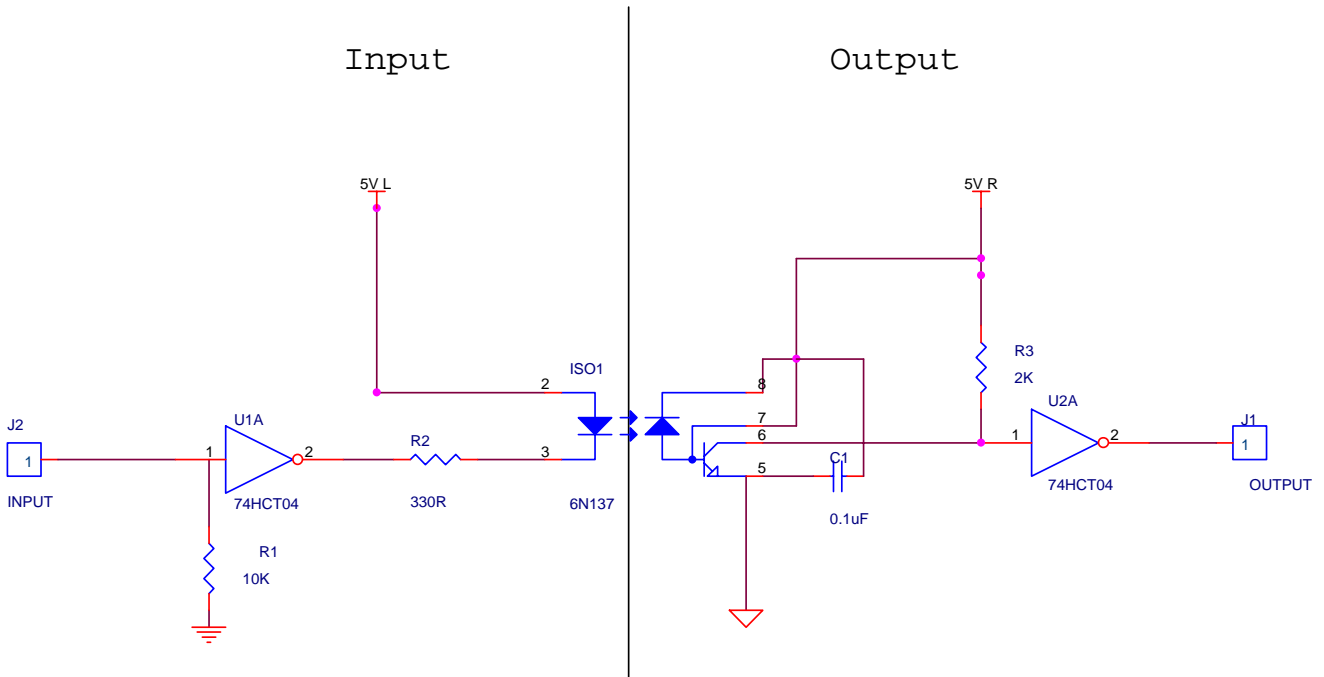
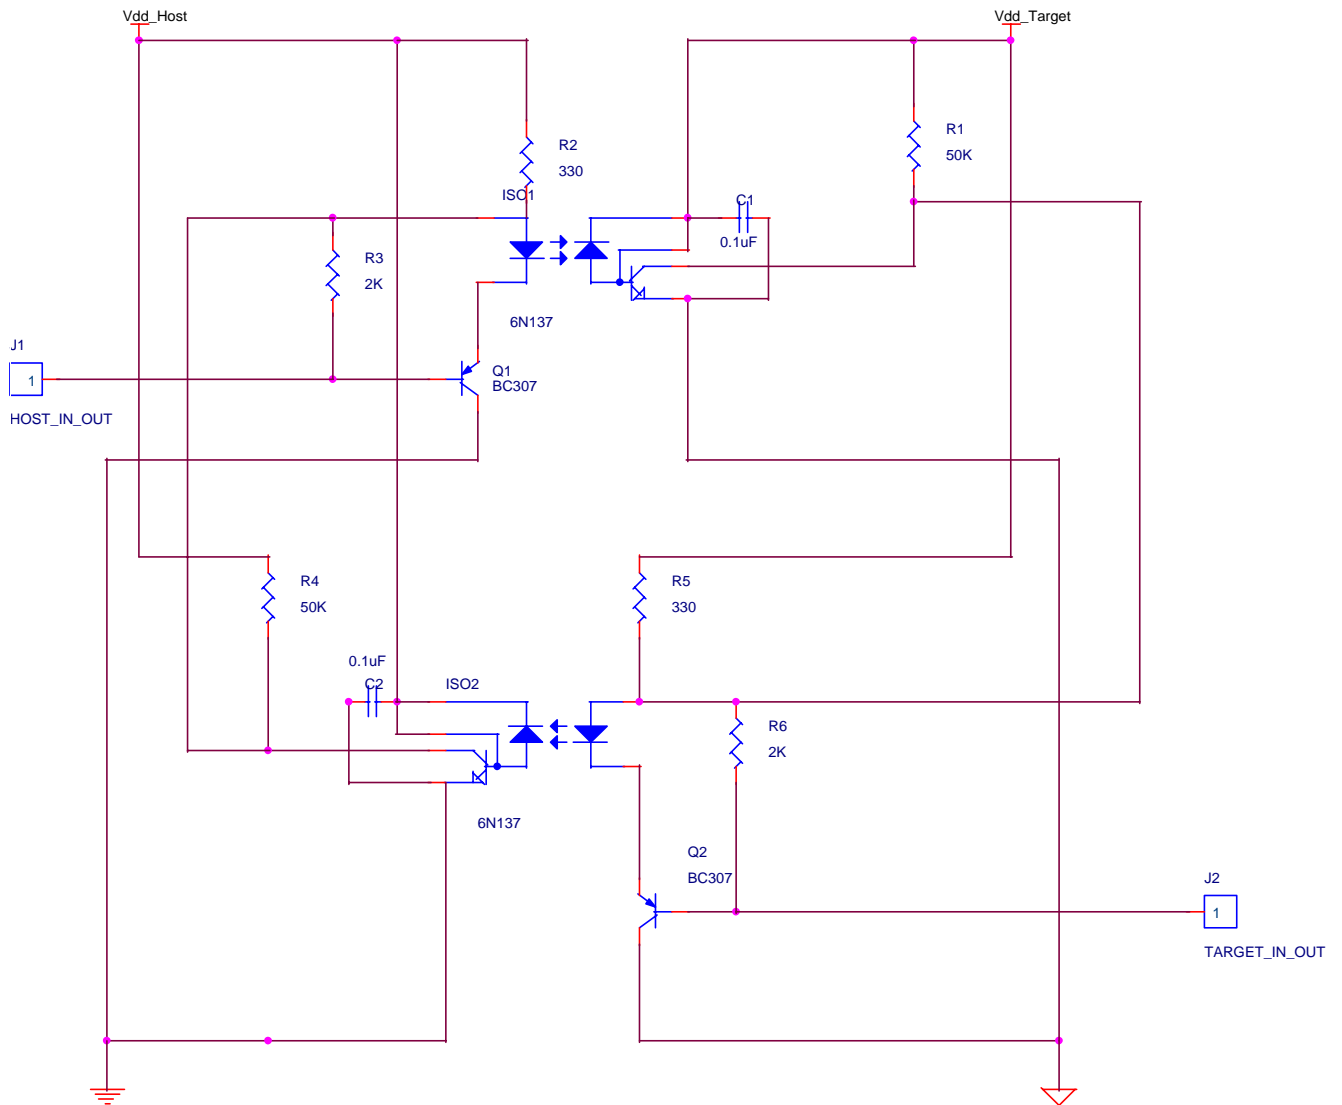
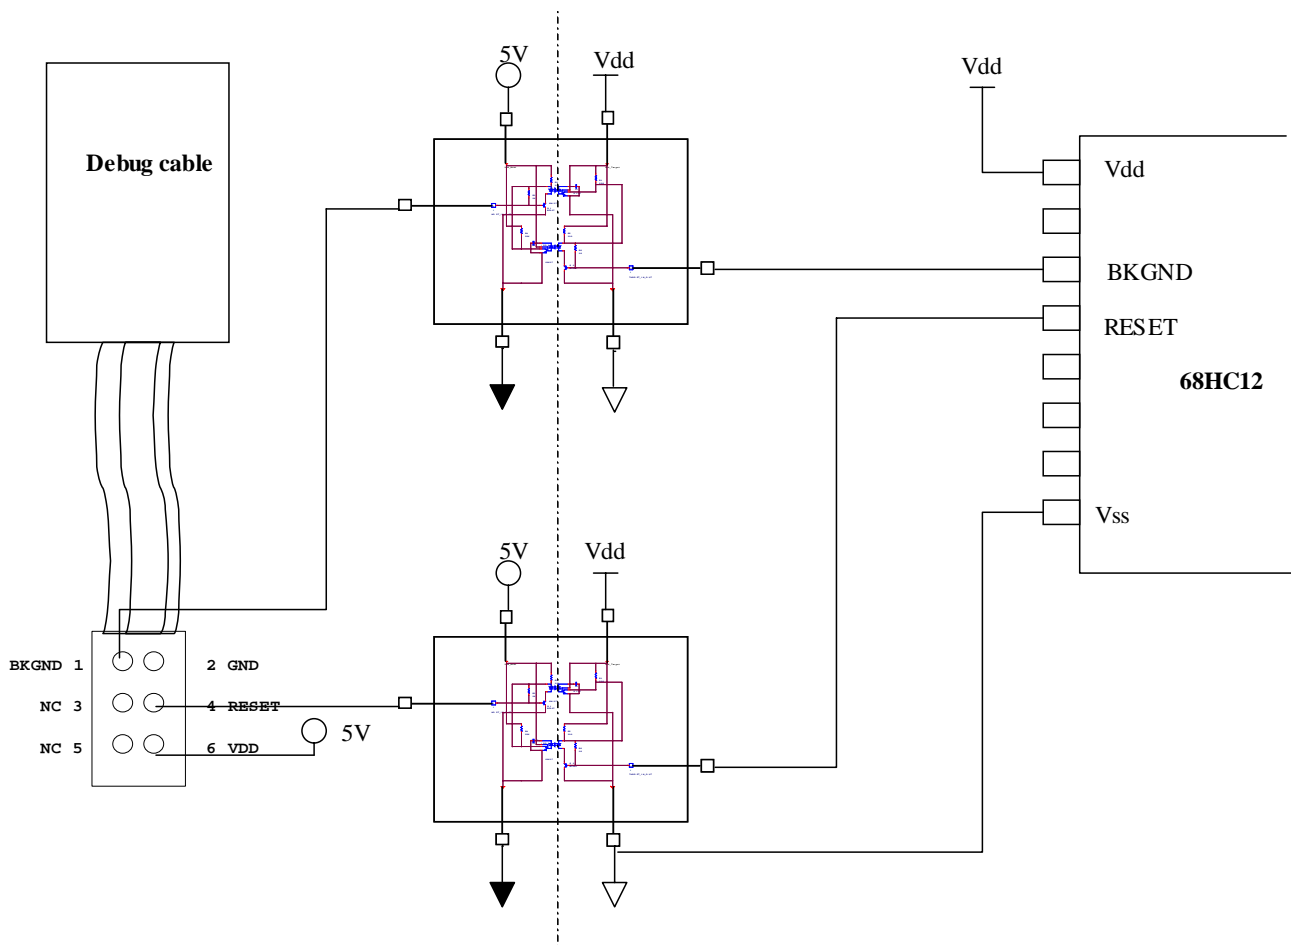
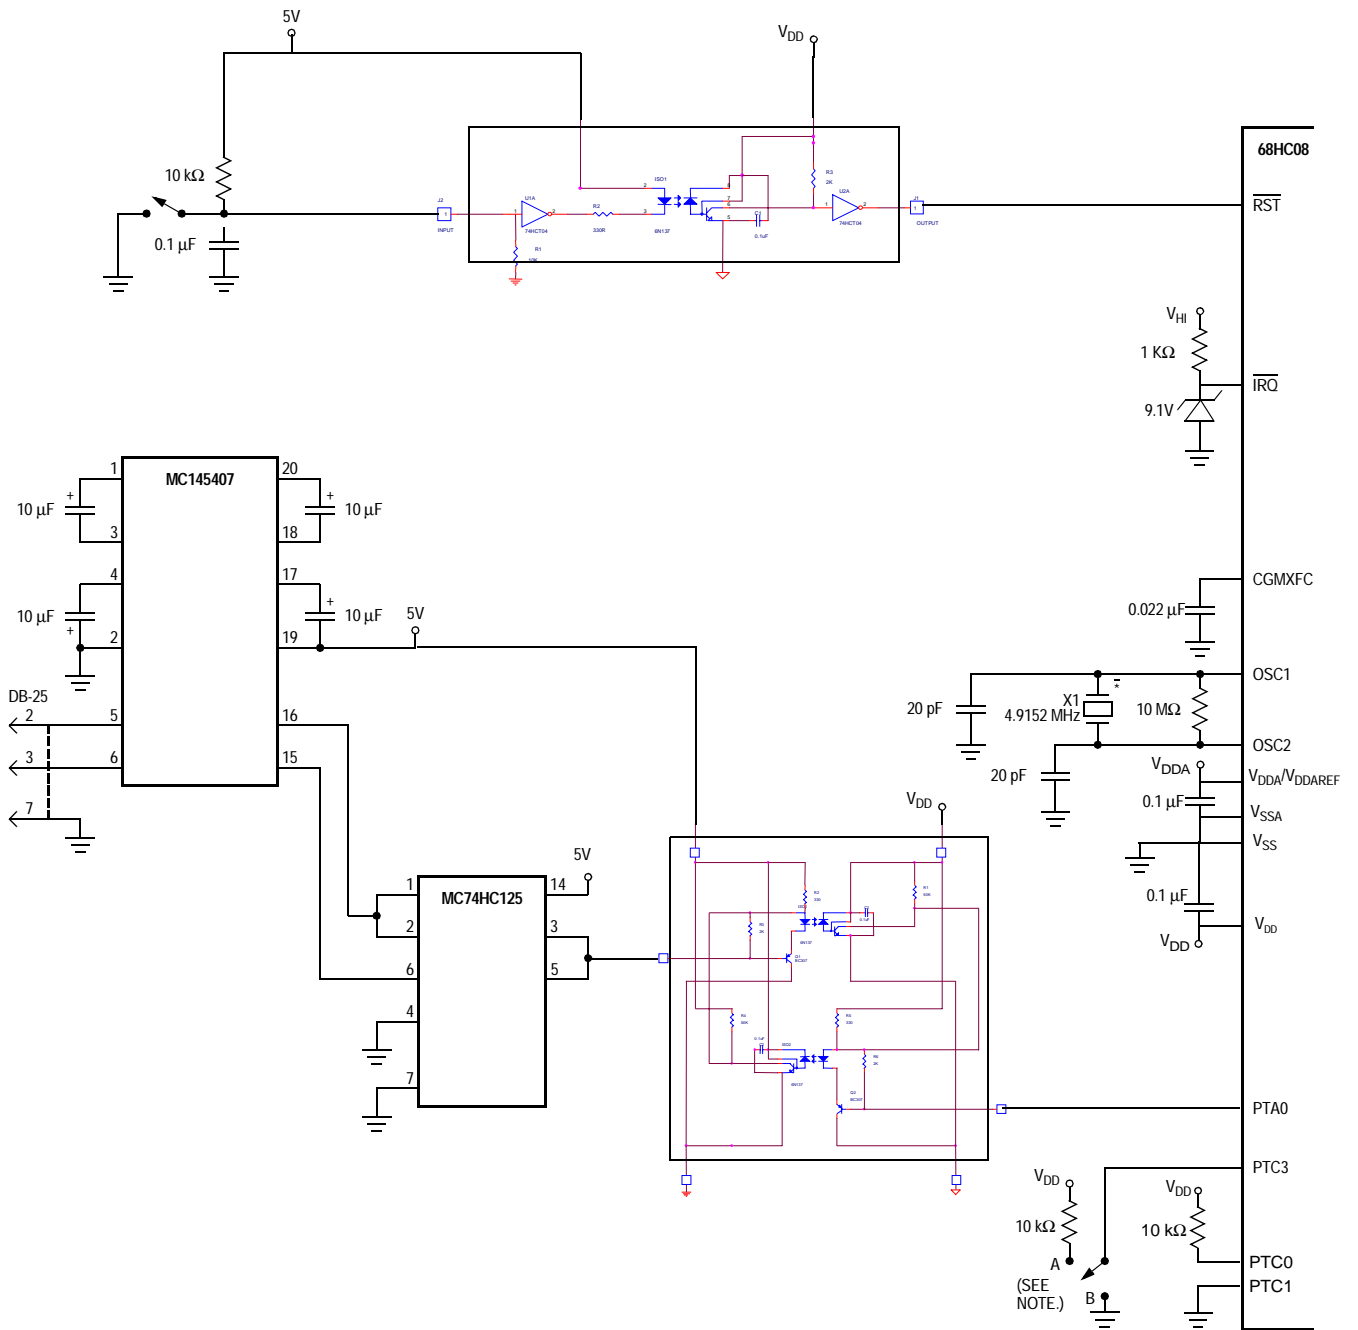

Figure 4. Opto Isolation of a unidirectional pin
Figure 5. Opto Isolation of a BiDirectional Pin
Figure 8. Optical Isolation Circuit for Background Debug Mode
Figure 10. Opto Isolation Circuit For Monitor Mode
The optoisolation circuit shown in Figure 4 . Opto Isolation of a unidirectional pin shows a standard circuit that can be used to isolate a unidirectional digital I/O pin.
Figure 5 . Opto Isolation of a BiDirectional Pin shows a circuit that allows opto-isolated bidirectional communications on a bi-directional digital pin. It uses 2 x 6N137 optoisolators, 2 PNP transistors and some passives.
- Power Consumption** A 6N137 optoisolator requires approximately 15mA current to drive its LED. This extra power requirement needs to be considered when choosing voltage regulators or other power supply components. For the bidirectional circuit shown in Figure 5 . Opto Isolation of a BiDirectional Pin, under normal operation condition, only 1 optoisolator will be active at any given time, so for this circuit, the designer need only allocate extra current for 1 optocoupler.
Figure 8 . Optical Isolation Circuit for Background Debug Mode shows a circuit that provides optoisolation for the debugging cable using 2 bidirectional circuits as shown in Figure 5 . Opto Isolation of a BiDirectional Pin.
The engineer can choose to select the operating mode of the 68HC(S)12 when the mcu resets by setting or clearing the MODA and MODB pins on the mcu. Mostly, these pins are hardwired in the application to select a particular mode of operation. However, some debuggers can connect to these pins and provide dynamic control over the operating modes. These pins can be easily optisolated using the circuit shown in Figure 4 . Opto Isolation of a unidirectional pin.
Other monitor mode pins (PTC0, PTC1, PTC3) can be 'hardwired' to allow monitor mode access, or they could be optoisolated using the circuit shown in **Figure 4 . Opto Isolation of a unidirectional pin**. Note, isolating all the monitor mode set-up pins would involve adding significant additional current requirements on the application's power supply
Figure 10 . Opto Isolation Circuit For Monitor Mode shows the monitor mode circuit with optoisolation using circuits shown in **Figure 4 . Opto Isolation of a unidirectional pin** and **Figure 5 . Opto Isolation of a BiDirectional Pin**.